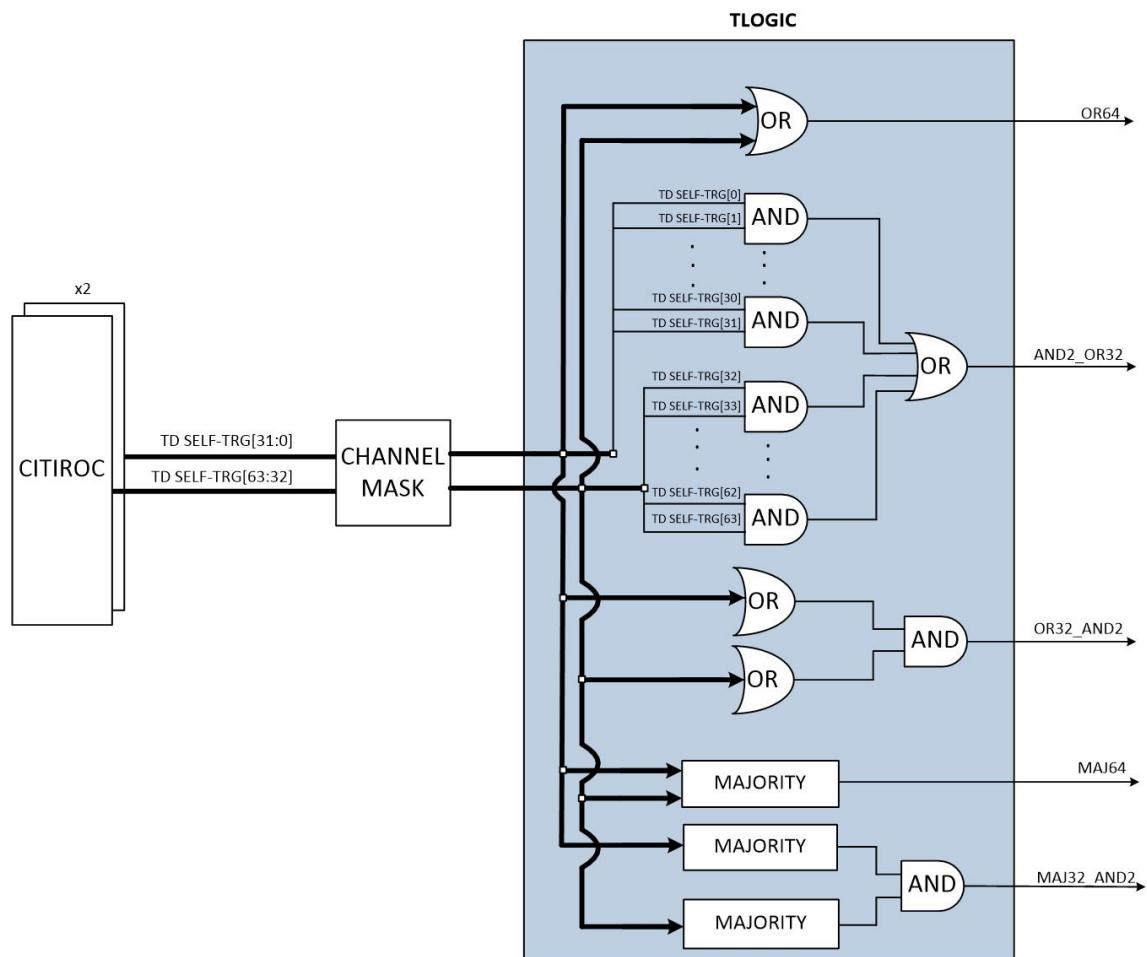

Fig. 8.9: TLOGIC signal block diagram.
- **Bunch Trigger.** A bunch (i.e. global) trigger signal directed to all channels (64) of the board. The Bunch Trigger is used for two purposes:
- **TLogic.** A logic signal generated by the combination of the channel self-triggers from the TD line. As explained in Sec. 8.1.3, each channel can generate a TD self-trigger signal when the pulse from the Fast Shaper crosses a configurable threshold. The self-triggers of each channel are then processed at firmware level in order to create a TLogic trigger signal. The self-triggers coming from different channels can be masked, so that the user can define which channels participate to the logic definition. The logic functions associated to the TLogic signal (see Fig. 8.9) are: